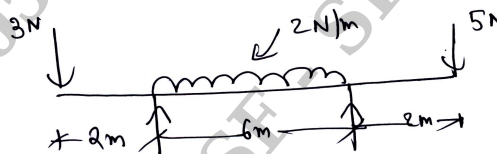

Fig.Q5(b)
- b. For the beam shown in Fig.Q5(b) construct the SFD and BMD indicating salient values. Find the point of contraflexure, if any.